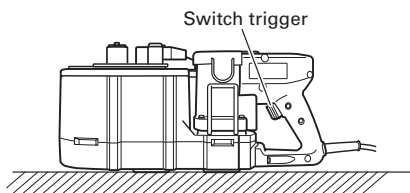

Fig. 13
- (1) Set the unit in the position with the turntable up as shown in Fig. 13.